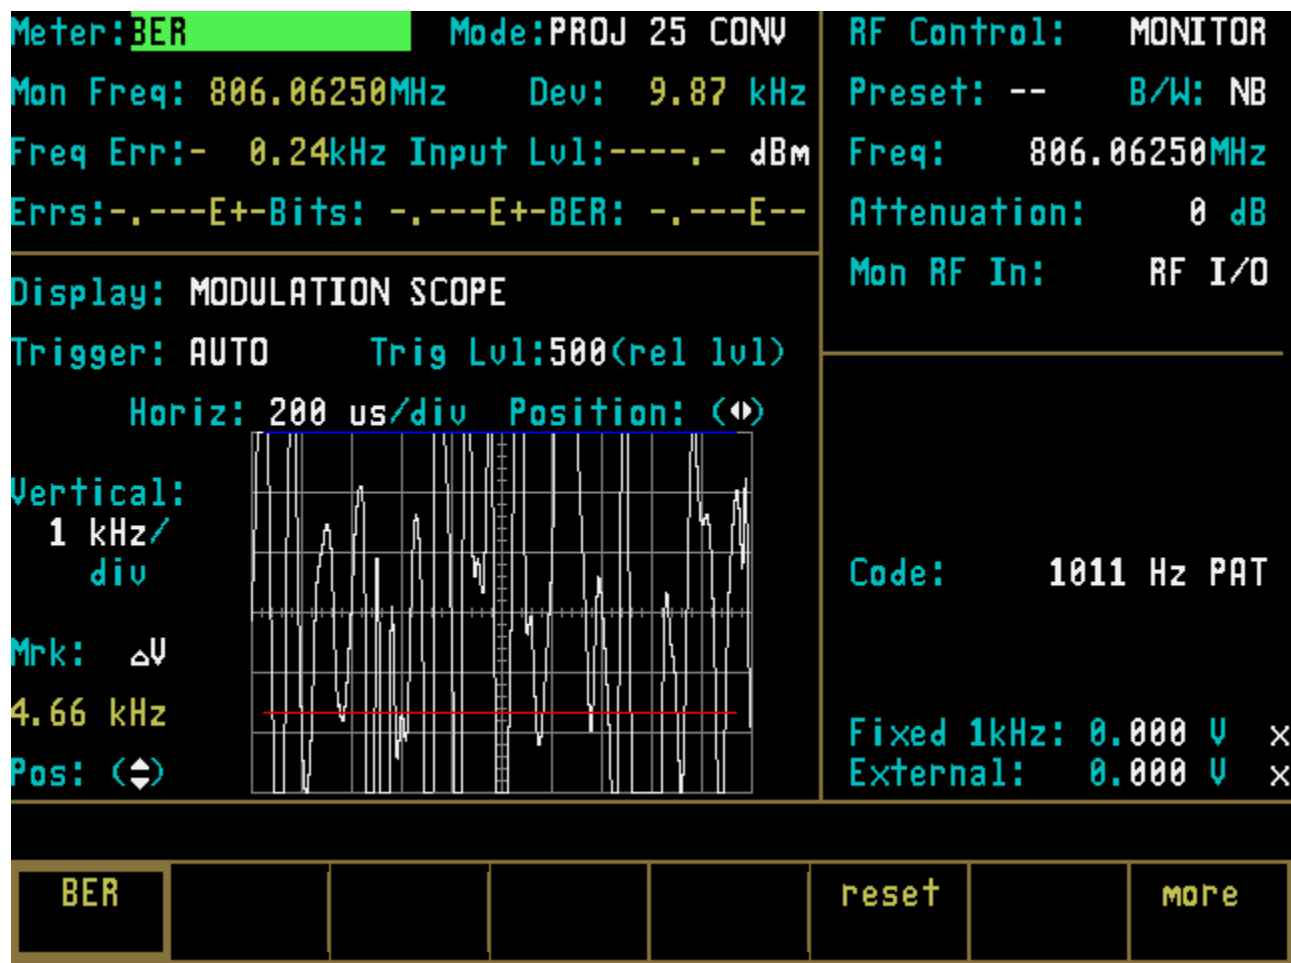

Figure 22-2. Radio (BER Test Mode) BER Meter
- Access the BER Meter by placing the cursor in the Display Zone's "Meter:" field and pressing the **more** softkey until the **BER** softkey is presented. Select **BER** via the softkey to display the BER Meter. A screen similar to Figure 22-2 appears.